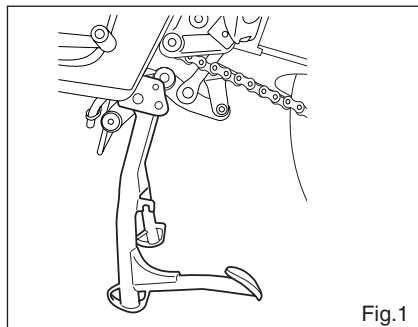

Fig.1
3. Insert SPACER ② thru the hole of CENTER STAND COMP ①. Set them to the installation position as shown in Fig.1.